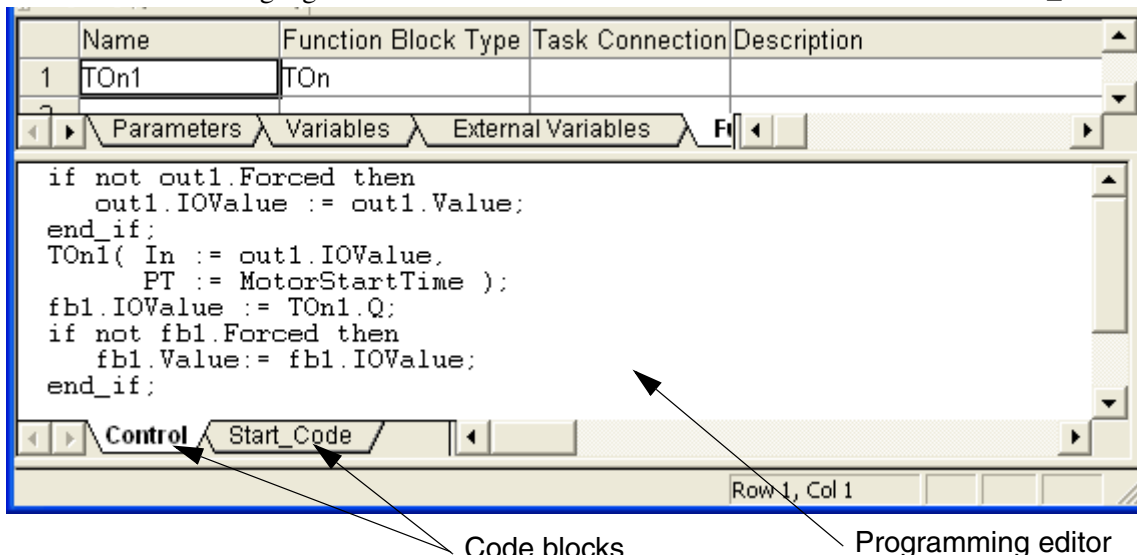

Figure 8. A programming editor with two code blocks.
- Programming editor for programming code (see Figure 8).
Figure 8 shows a part of a programming editor, which uses Structured Text (ST) as the language. This editor also contains two code blocks: Control and Start\_Code.